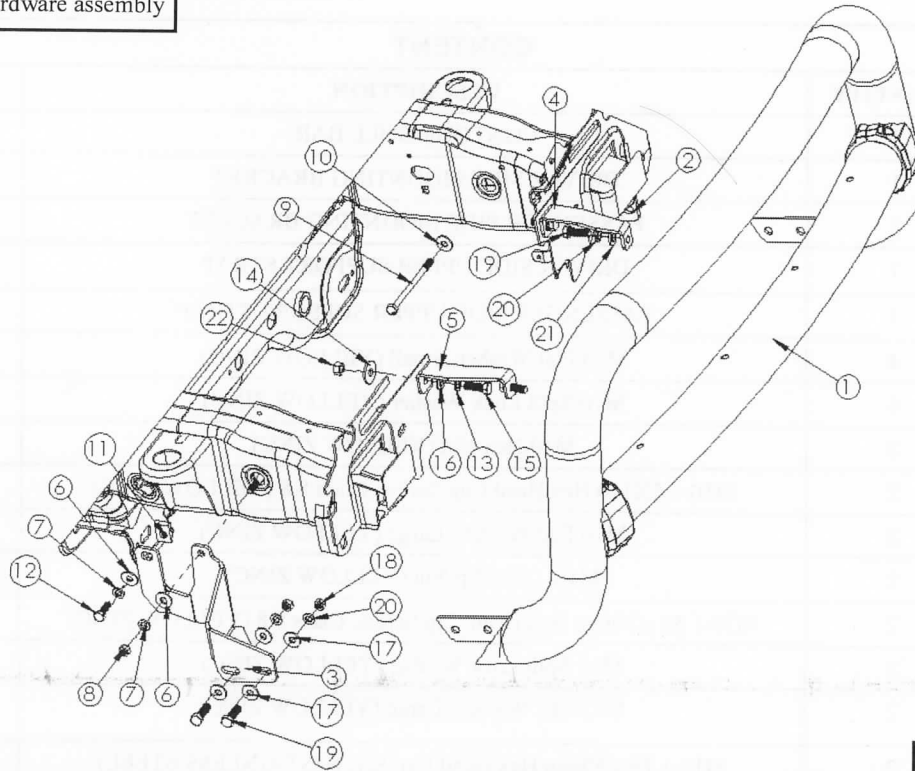

Fig. 6
7. With assistance, hold the bull bar up in position on the outside of the lower mounting brackets. Loosely attach the bull bar to the brackets using (4) M10-1.50X35 hex head cap screws, (8) M10 medium flat washer, (4) M10 split lock washers, and (4) M10 hex nuts. Refer to **Figure 6** for a picture showing the mounting hardware.